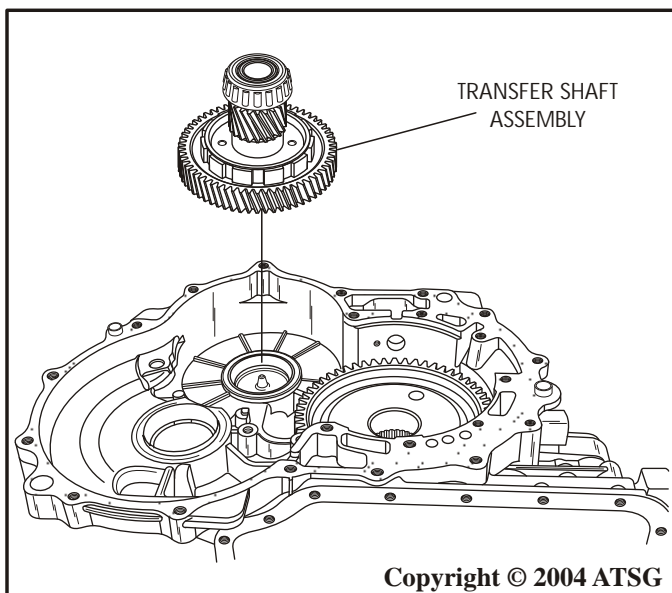

Figure 132
44. Install completed transfer shaft assembly into transaxle case, as shown in Figure 132.